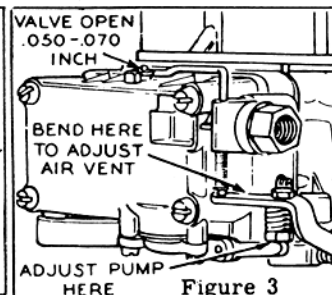

Figure 3
d. **Air Vent Adjustment.** (See figure 3.) This adjustment must be made after the carburetor has been adjusted for proper idle. At normal idle, the air vent valve should be held off its seat the distance specified on Adjustment Data Table. Bend end of the pump operating level to correct this clearance.